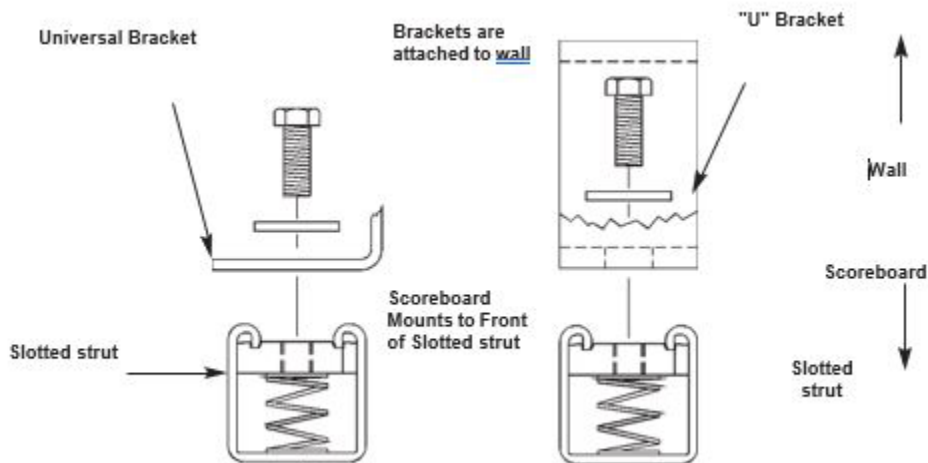

Figure 3-K: Attaching slotted strut to bracket, Top View
- 2) Mount the bottom scoreboard display line, sliding the scoreboard display line's mounting brackets into the slotted strut as shown in Figure 3-L.